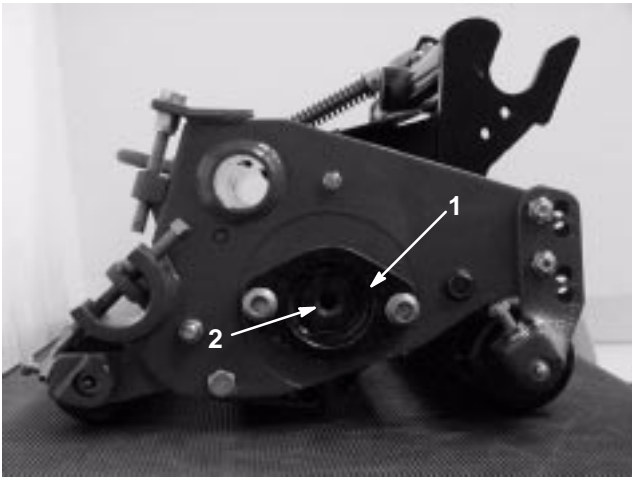

Figure 19
- B. Using a large socket wrench, remove the reel bearing adjustment nut (Fig. 19). Tap on the head of the hex head bolt on the end of the reel shaft, with a small hammer, until end play of the reel can be felt.
3. Remove the large bearing adjustment nut from the counterbalance end of the reel shaft and the special splined nut (Fig. 19) at the opposite end of the reel shaft.